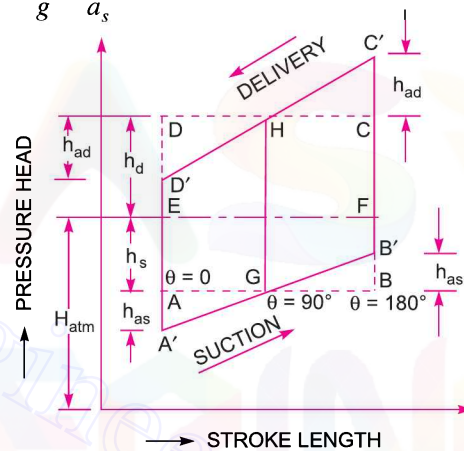

Fig. 20.5 Effect of acceleration on indicator diagram.
From Fig. 20.5, it is now clear that due to acceleration in suction and delivery pipe, the indicator diagram has changed from  $ABCD$  to  $A'B'C'D'$ . But the area of indicator diagram  $ABCD = \text{Area } A'B'C'D'$ . Now from equation (20.21), work done by pump is proportional to the area of indicator diagram. Hence the work done by the pump on the water remains same.
- (iii) Pressure head in the cylinder at the beginning of the suction stroke (Refer to Fig. 20.5)
- (ii) From Fig. 20.5, the pressure head in the cylinder at the beginning of the delivery stroke
From the indicator diagram, drawn in Fig. 20.5, it is clear that the absolute pressure head during suction stroke is minimum at the beginning of the stroke. Thus, the separation can take place at the beginning of the stroke only. In that case the pressure head in the cylinder at the beginning of stroke becomes =  $h_{sep}$ .